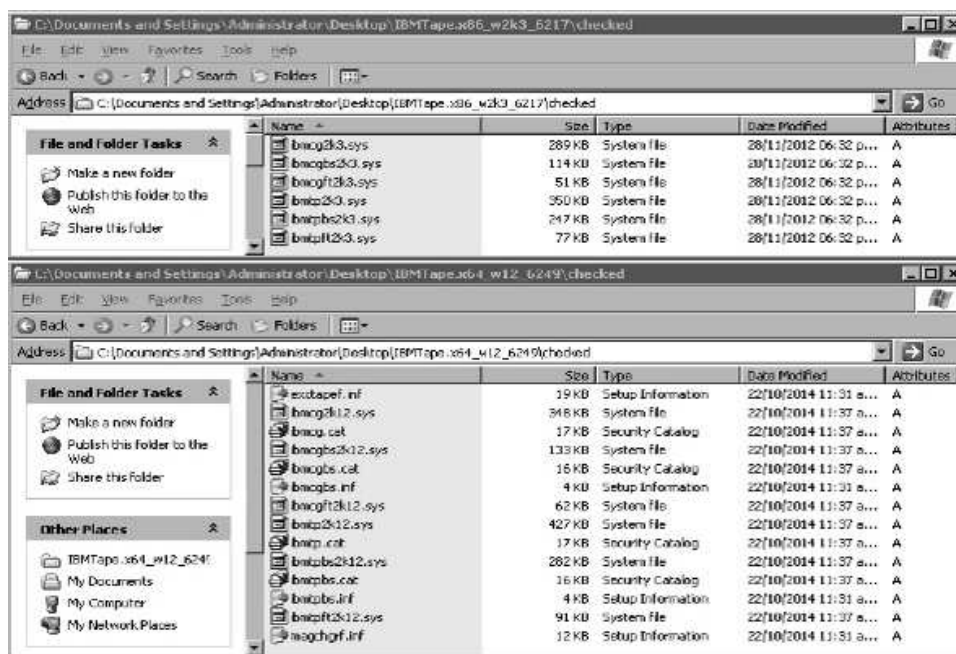

Figure 16. \checked folder
- *yyy* = 2k3 for Windows Server 2003. Refer to Figure 16